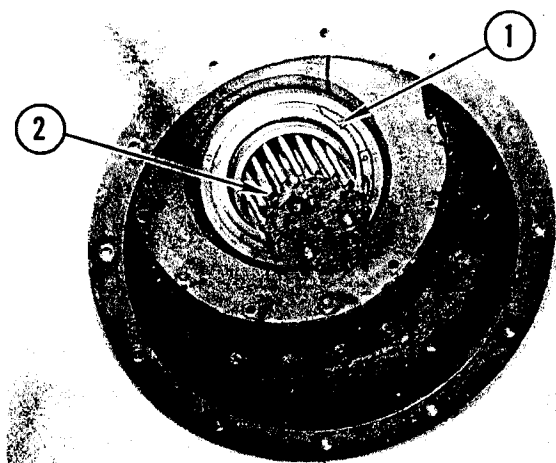

FIGURE 105. BEARING RETAINER SNAP RING
Remove snap ring (1), Figure 105.